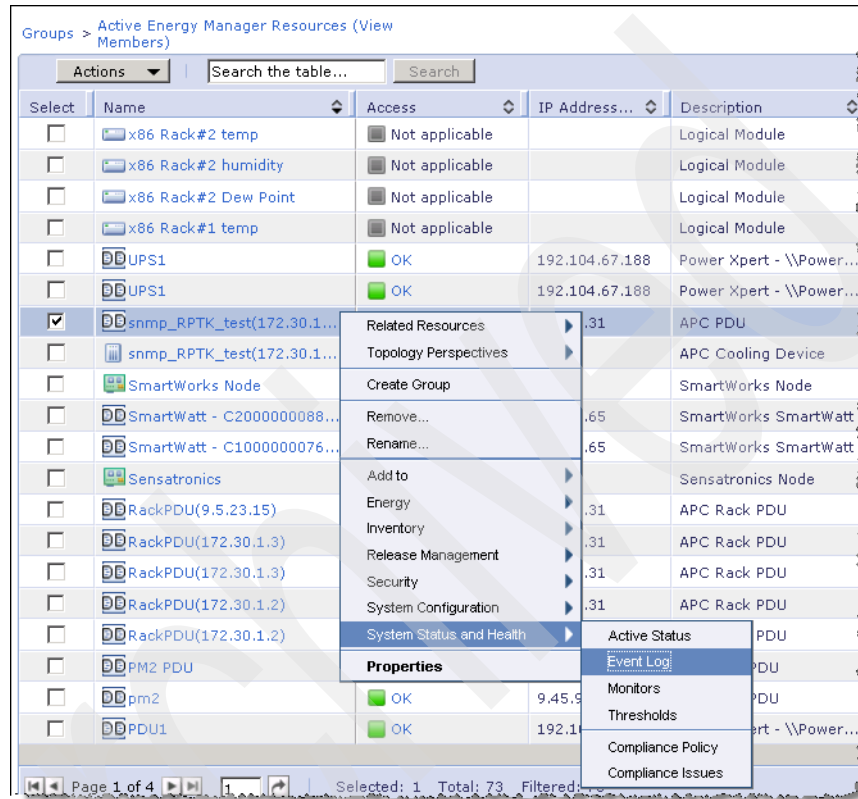

Figure 10-23 Active Energy Manager Resources (view Members)
1. Navigate to Navigate resource → Active Energy Manager resources (view Members). Right-click any Eaton Power Xpert Reporting managed or APC ISXC managed facility equipment, as shown in Figure 10-23.